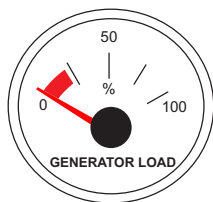

Figure 59. Generator Load Gauge
14. Verify that the **generator load gauge** (Figure 59) reads the anticipated percentage of load. It is recommended the load be above the red area (20%) for maintaining sufficient exhaust temperature.